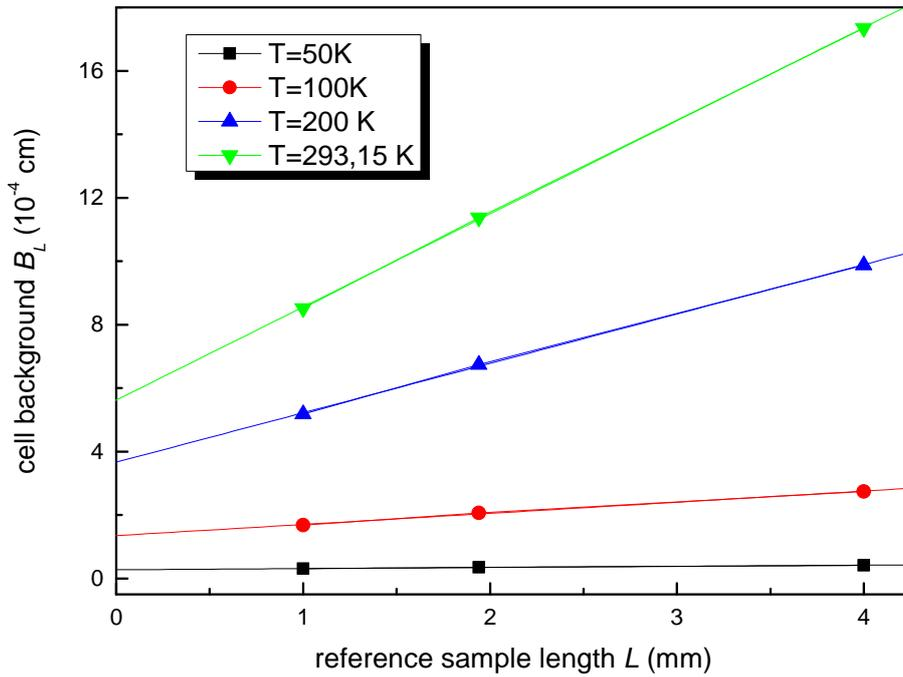

Figure 2: Cell background B_L for Cu reference samples of different lengths. From [2].
where $B'(T)$ and $B''(T)$ denote the sample length independent and dependent parts, respectively. The example measurements in Fig. 2 show that B_L is indeed a linear function of L , so that eq. (3) is a valid assumption.